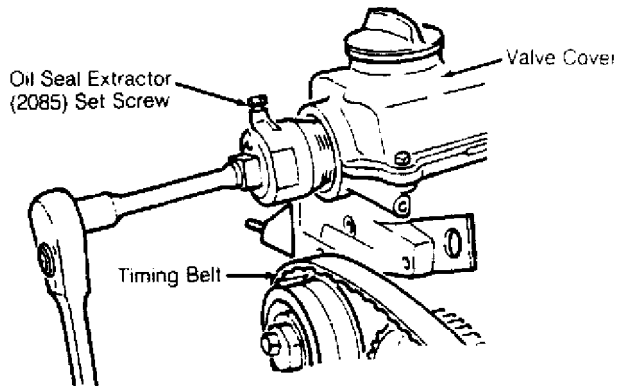

Fig. 11: Removing Camshaft Oil Seal
1) Remove timing belt. See TIMING BELT under REMOVAL & INSTALLATION. Rotate inner part of Oil Seal Extractor (2085) outward 2 turns and tighten set screw. See Fig. 11.
2) Rotate inner part of Oil Seal Extractor (2085) outward 2 turns and tighten set screw. See Fig. 11. Lubricate threaded area of extractor and push in as far as possible. Loosen set screw and turn inner part of extractor until oil seal is removed.